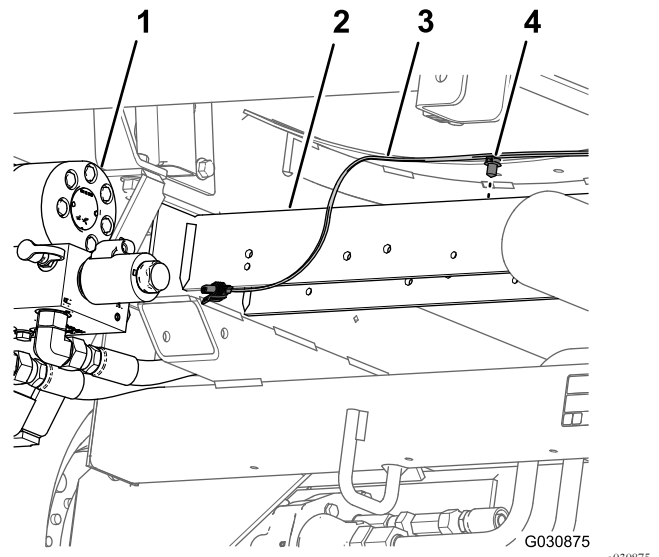

Figure 41
6. Remove the fir-tree anchor that secures the rear wire harness (Figure 41) to the holes in the rear cross tube (rearward of the hydraulic-traction motors).